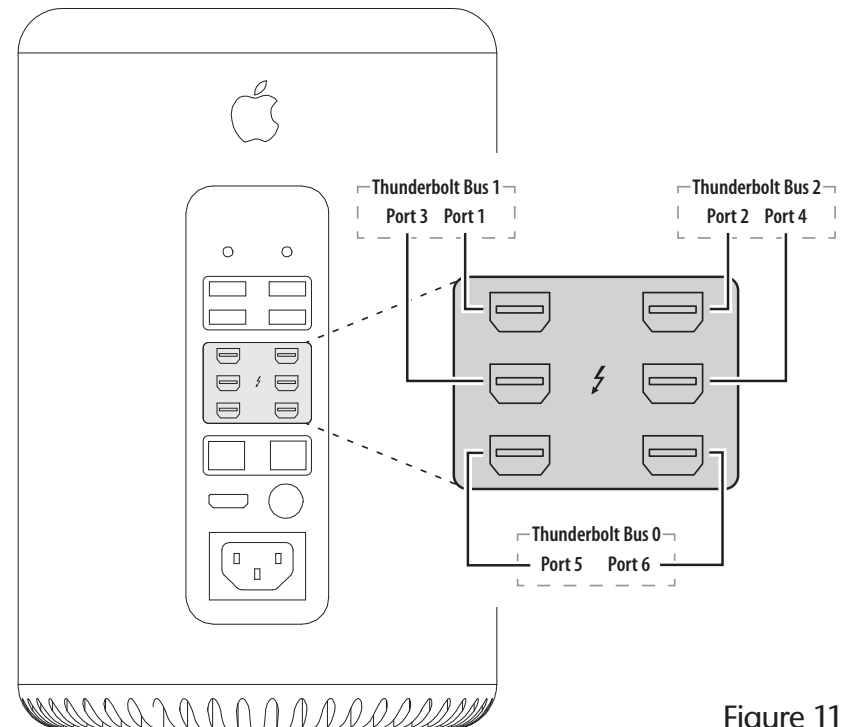

Figure 11
**Support Note:** The Mac Pro is equipped with three Thunderbolt 2 busses, each with two ports (Figure 11). The xMac Pro Server's PCIe card expansion module connects to one of the ports with the included Thunderbolt cable. Sonnet recommends that, whenever possible, you connect the PCIe card expansion module to its own bus, leaving the other Thunderbolt port on the bus unoccupied. This will ensure the installed PCIe cards get the full bandwidth of the bus. Sonnet recommends you connect only one high-bandwidth PCIe device (such as the PCIe card expansion module) and one display per bus.